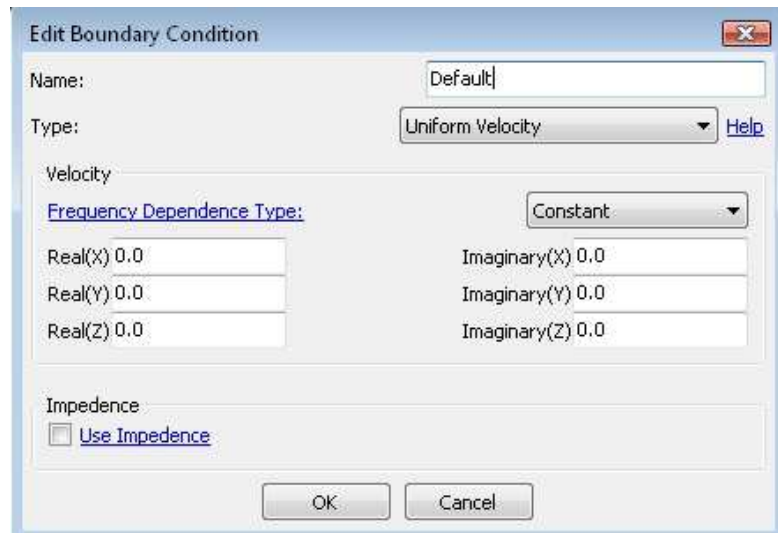

Figure 9.16: Edit boundary conditions window.
- Right-click on **Default** and select: **Edit...** to make changes to the default boundary conditions applied to all the boundary elements. The window in Figure 9.16 will appear.